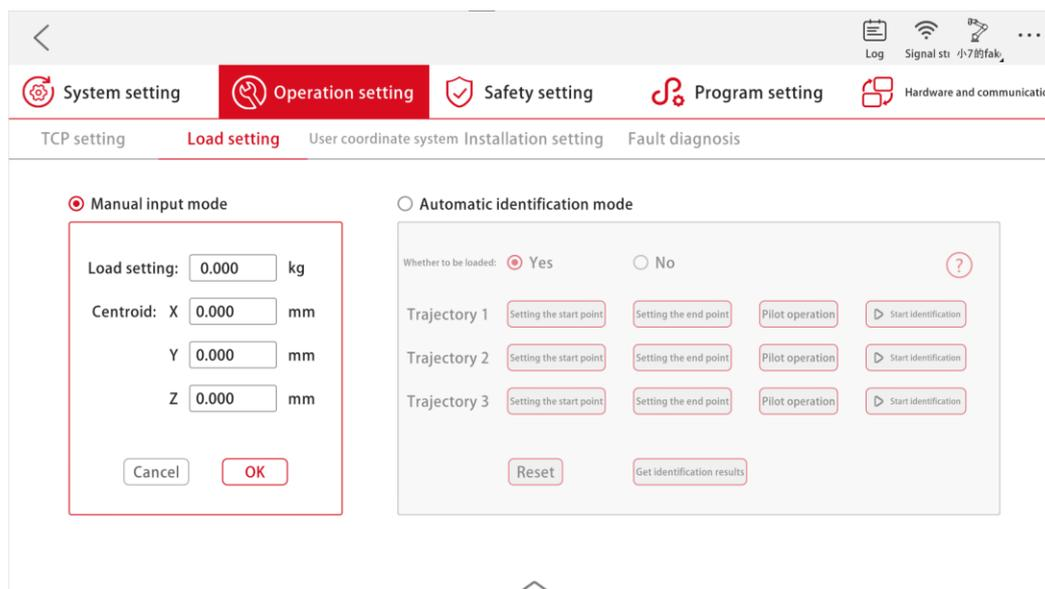

Figure 3-10 Load Manual Input Setting Interface
(1) Manual input mode (as shown in Figure 3-10):